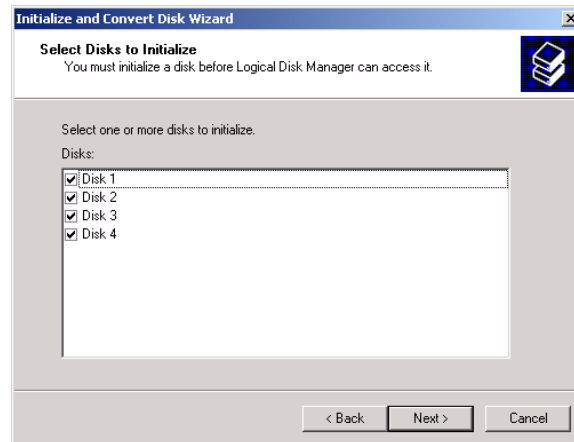

FIGURE 6-17. Initialize and Convert Disk Wizard - Select Disks to Initialize Screen.
4. At the *Initialize and Convert Disk Wizard - Select Disks to Initialize* screen, make sure the Disk 1-Disk 4 checkboxes (as applicable, per the number of vPODs) are checked. Click **NEXT >**. See Figure 6-17.